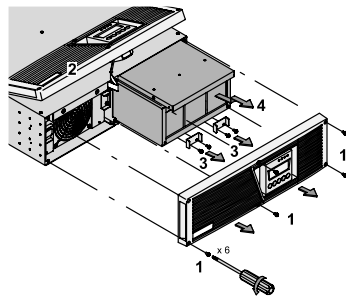

Figure 40. Removing the Battery Tray
1. Remove the UPS front cover (six screws). See Figure 40.